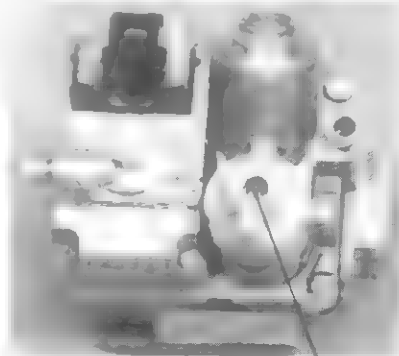

Fig. 7
- 5) Remove the cap from the gas valve regulator adjustment screw. Turn the gas valve to the ON position. See Figure 7.